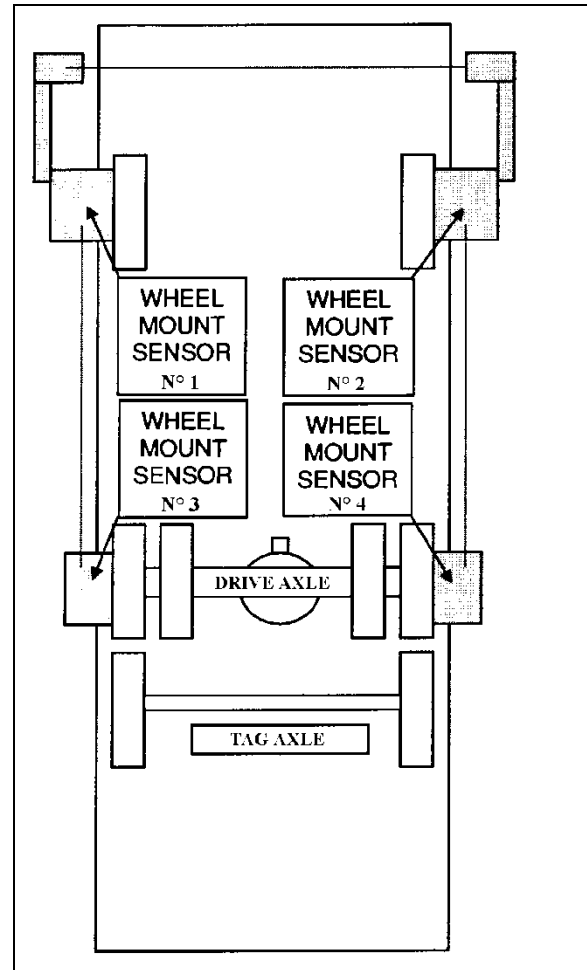

FIGURE 8: FRONT &amp; DRIVE AXLE ALIGNMENT 11025
3. Install wheel mount sensors on front end and drive axle wheels (Figure 8).
4. With the system installed as in Figure 8, adjust drive axle according to specifications' chart below.